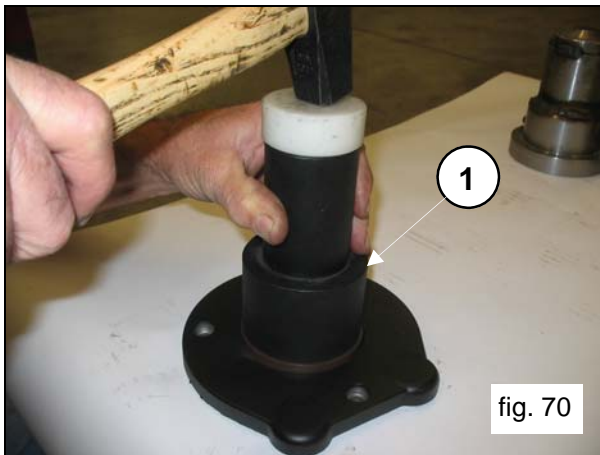
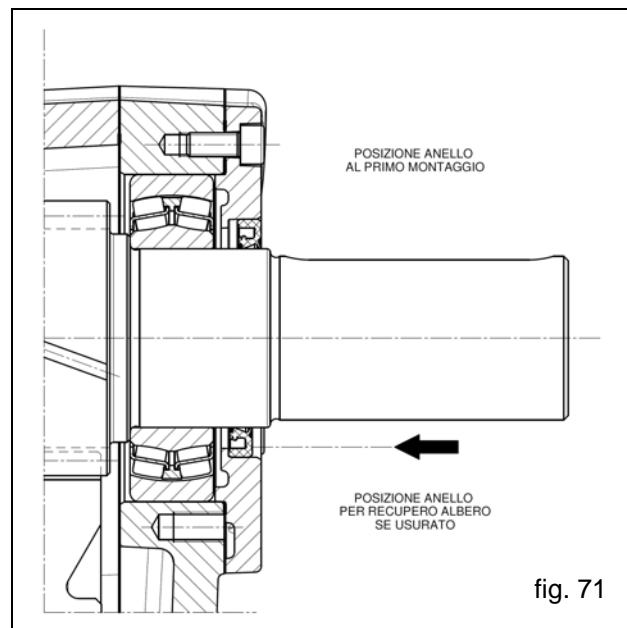

fig. 70
fig. 71
Insert the oil seal inside the reducer flange using the tools cod.27515900 and 27548200 (pos.①, fig.70). Before proceeding with oil seal assembly, verify the conditions of the sealing lip. If replacement is necessary, position the new ring as indicated in fig.71.
If the shaft presents diameter wear corresponding to the sealing lip, to avoid the need for grinding it's possible to position the ring as indicated in fig. 71.